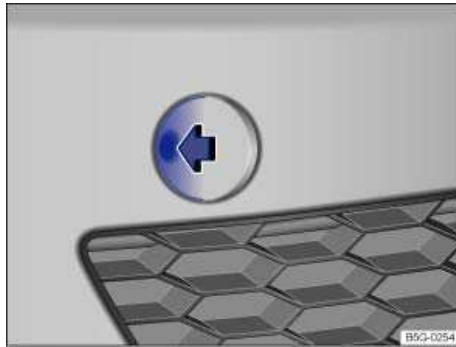

Fig. 188 In the right front bumper: Removing the cover.
- Push on the left side of the cover ⇒ fig. 188 (arrow) so that it pops out.